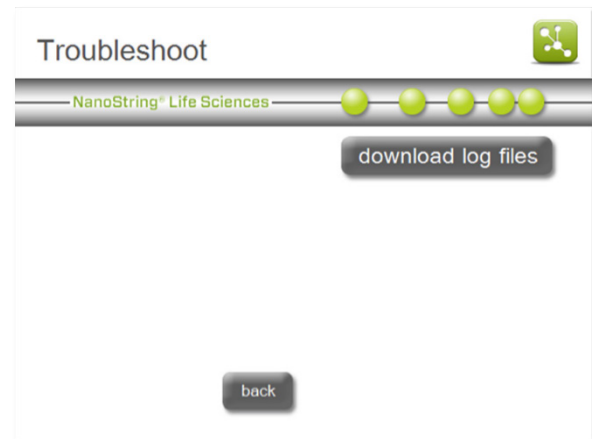

Figure 151: The 'Troubleshoot' screen.
1. Press **troubleshoot** on the Maintenance screen. The 'Troubleshoot' screen will appear (Figure 151).